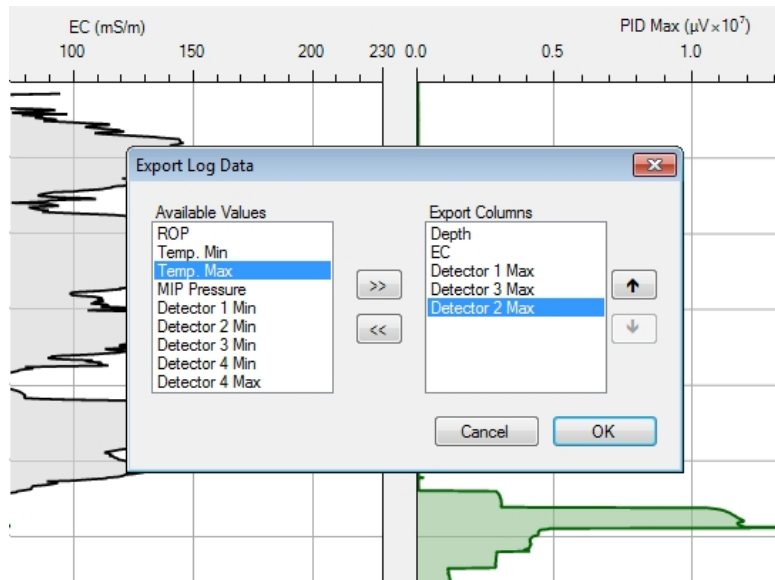

Figure 48: Text box for selecting data to export under Exporting Log Data
2. A new pop-up textbox will appear which will allow the user to select the data series they wish to export. The textbox has two columns: *Available Values* and *Export Column* (Figure 48).